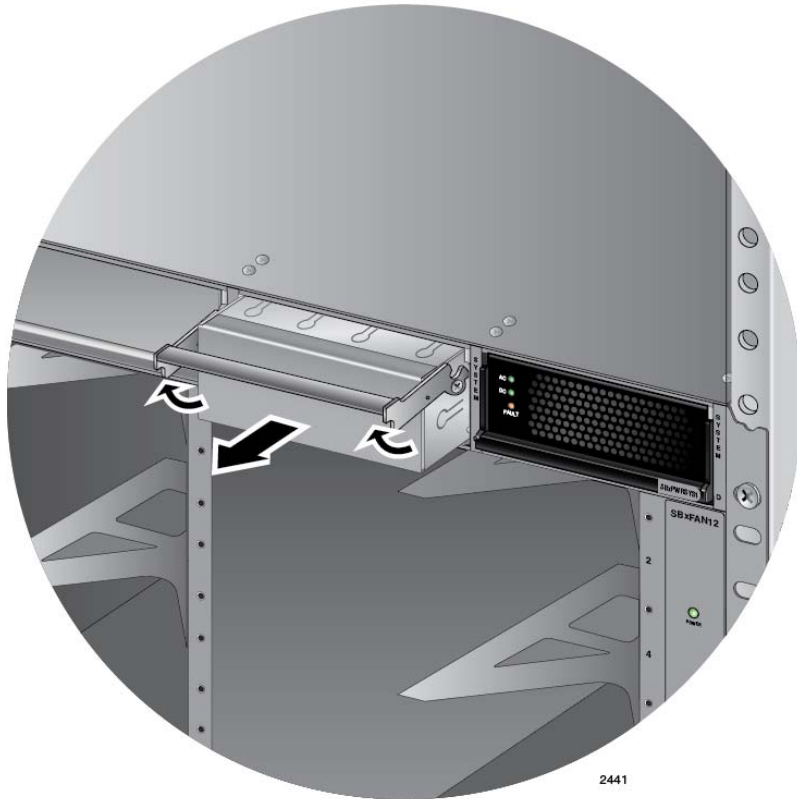

Figure 44. Removing the Blank Slot Cover from Power Supply Slot C
2. If the chassis already has a power supply in slot D, remove the blank power supply panel from slot C by lifting the blank panel handle and sliding it out of the slot, as shown in Figure 44 on page 90.